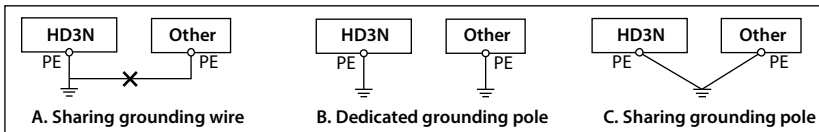

Figure 4-18 Grounding method
Do not share the grounding wire with other devices (A). HD3N can share grounding pole with other devices (C). It achieves the best effect if HD3N and other devices use dedicated grounding poles (B), as shown in Figure 4-18.